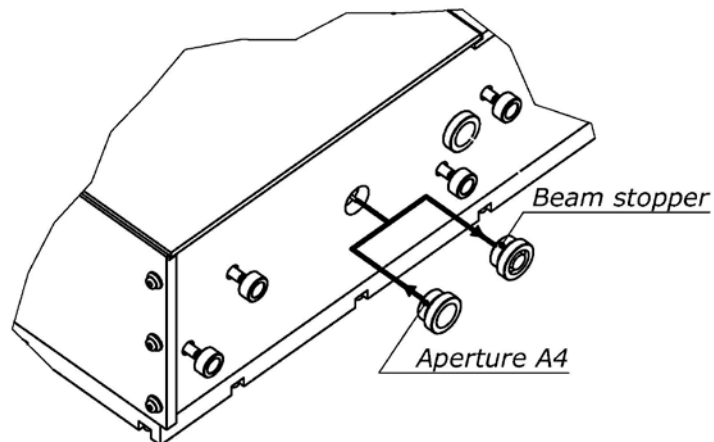

Fig. 9
14. *Remove the beam stopper and screw in aperture A4 (Fig. 9).*